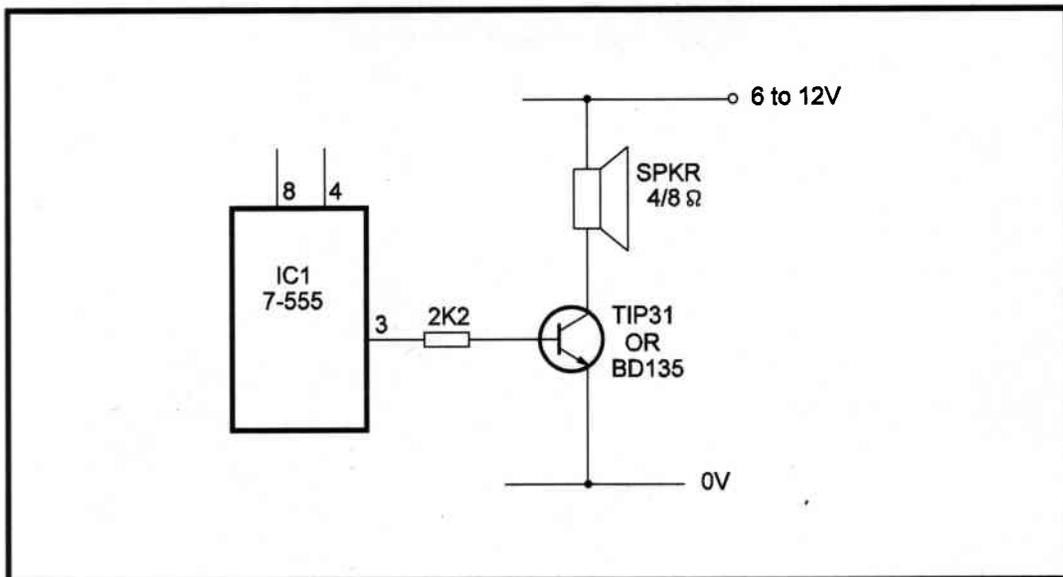

Figure 3
- Powerful output can be obtained with a transistorized output stage as shown in **Figure 3**. The power transistor should be mounted on a heatsink. The transducer is a low-impedance loudspeaker ranging from 4 to 8 ohms.